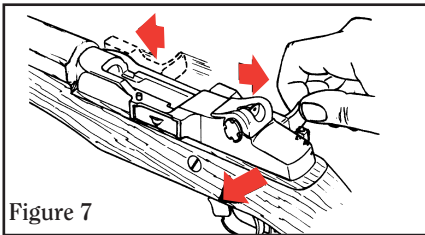

Figure 7
2. Pull the slide handle all the way to the rear and release. Make sure safety is "ON" (See Fig. 7). NOTE: Hammer must be cocked and safety must be "ON" to accomplish disassembly and reassembly. Again, be sure chamber is empty!